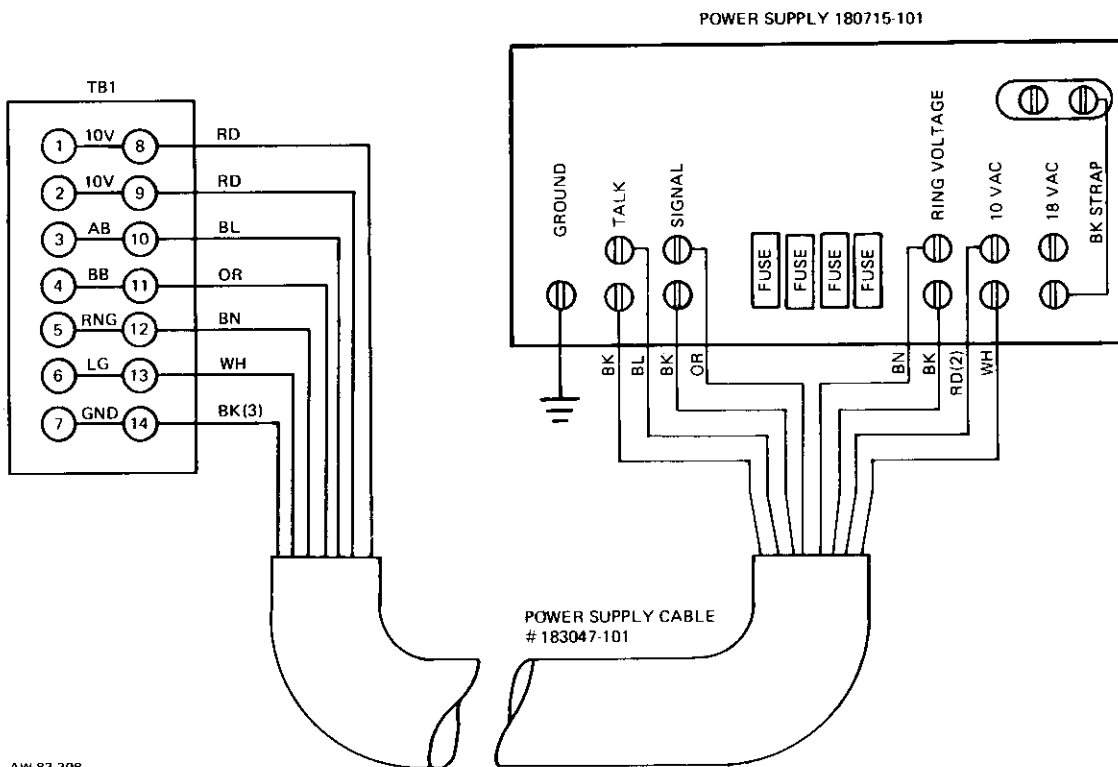

Figure 3: Power Supply Cabling
4.04 The 512A KSU can be ordered with or without a power supply. The power supply mounts to the right of TB1 on the hinged equipment mounting frame. It attaches to the mounting frame with four machine screws. A formed cable is used to connect the power supply outputs to the terminal board. Power supply cable-to-terminal board connections are shown in Figure 3.